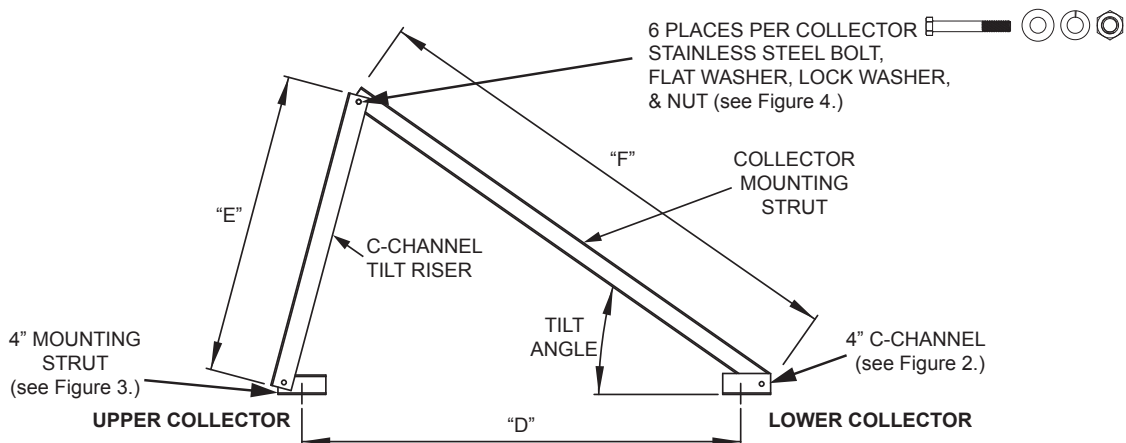

Figure 5.
Locate the mounting points for the mounting brackets per Figure 5 & Table 2. Layout the roof as specified in the solar installation manual or the optional solar collector mounting kit being used. Keep in mind the "D" dimension listed in Table 2 when marking the mounting points.
2. Install the 4" mounting bracket strut to the upper collector mounting location with the stainless steel fasteners included with your solar collector crate package or other optional solar collector mounting kit. See Figure 5 for placement of mounting bracket strut.
3. Install the 4" C-Channel mounting bracket to the lower collector mounting location with the stainless steel fasteners included with your solar collector crate package or other optional solar collector mounting kit. See Figure 5 for placement of C-Channel mounting bracket.